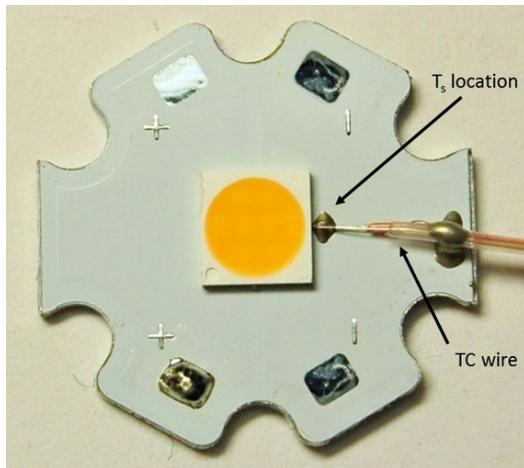

Figure 4. Actual placement of TC wire secured with thermal conductive epoxy.
The recommended location of the sensor pad is right next to the cathode pad of LUXEON 5050 emitter, as shown in Figure 4. To ensure accurate readings, the thermocouple (TC) tip must close contact to the copper of the PCB onto which the LUXEON emitter thermal pad is soldered, i.e. any solder mask or other masking layer must be first removed before mounting the thermocouple onto the PCB. The tip of the TC wire should be placed as close as possible to the LUXEON emitter package on the exposed copper layer of the thermal pad. The thermal resistance $R\theta_{j\text{-s}}$ between the sensor pad and the LUXEON emitter junction was experimentally determined based on the MCPCB with the following construction: 2oz copper, 0.1mm dielectric with thermal conductivity of 3 W/(m.K). The junction temperature can then be calculated as follows: